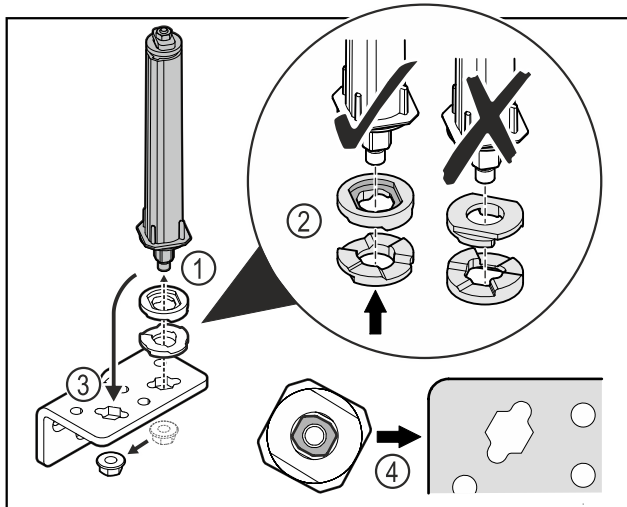

Fig. 31
- Loosen the nut and remove the door closing system Fig. 31 (1).
- Observe the correct alignment of the height adjustment washers Fig. 31 (2).
- Put the door closing system in the hinge and fix in place with the nut Fig. 31 (3).
- Observe the correct alignment of the door closing system when doing so Fig. 31 (4).